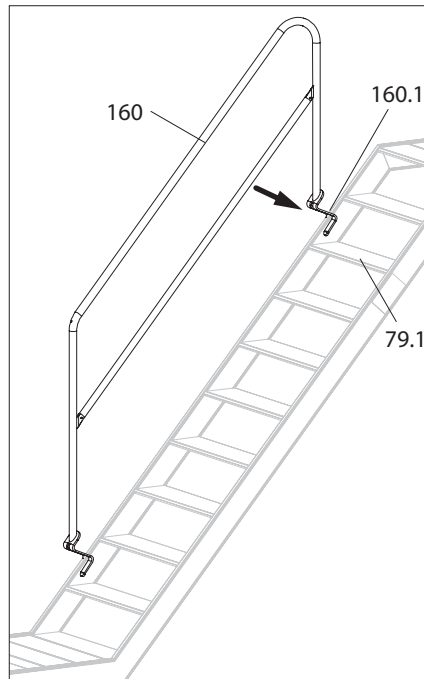

Fig. A8.06a
1. Attach the Stair Guardrail UAG to the stair rail using the mounting rings (160.1). (Fig. A8.06a)